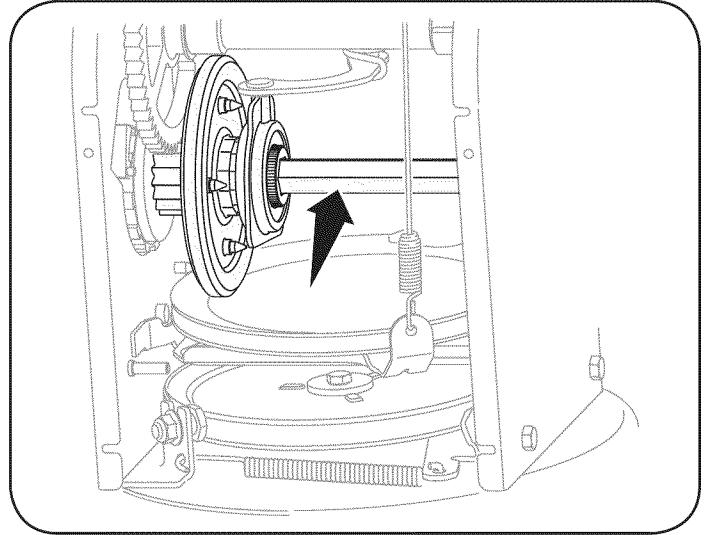

Figure 23
4. Apply a light coating of Bostik Regular grade Never-Seez® to the hex shaft. See Figure 23.